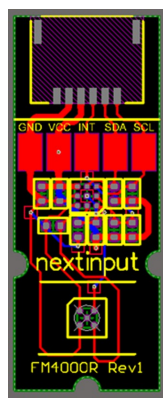

Figure 4: FM4000R Module Layout
- Figure 4 shows an example of the AF-301 connected to the FT-401 sensor.